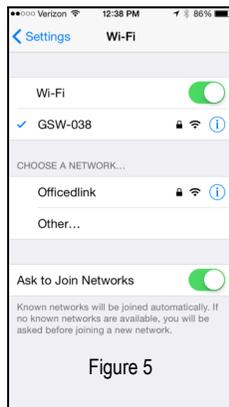

Figure 5
6. Select “GSW-\_\_\_” (the numbers appearing after GSW may vary), and connect. (iOS = Figure 5; Android = Figure 6.)